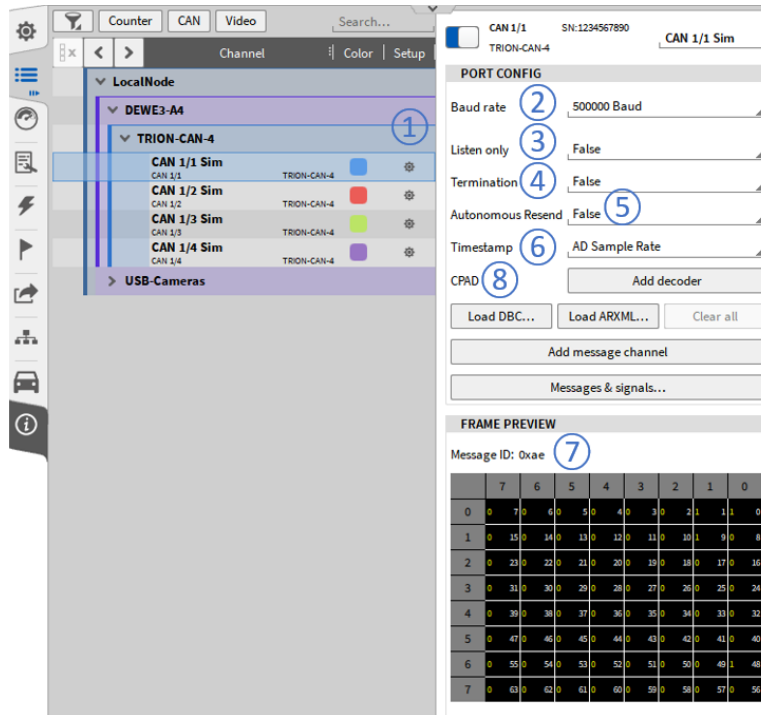

Fig. 7.202: CAN port configuration
To configure the CAN port properly, go to the Channel List and open the CAN port configuration of the dedicated CAN port by pressing the Gear button (see ① in Fig. 7.202).
- Baud rate (see ② in Fig. 7.202):
- Listen only (see ③ in Fig. 7.202):
- Termination (see ④ in Fig. 7.202):
- Autonomous Resend (see ⑤ in Fig. 7.202):
- Timestamp (see ⑥ in Fig. 7.202): Sets the time base on which the CAN signals are aligned.
The frame preview (see ⑦ in Fig. 7.202) will show a preview of the received messages if all settings (especially Baud rate and Termination) are set correctly and data is available on the CAN port.
CPAD (see ⑧ in Fig. 7.202): If a module of the CPAD series is connected to the CAN bus, a CPAD decoder can be added for decoding their messages and signals without the need for a proper dbc-file. For more information, refer to *Using XRs / CPADs with OXYGEN*.